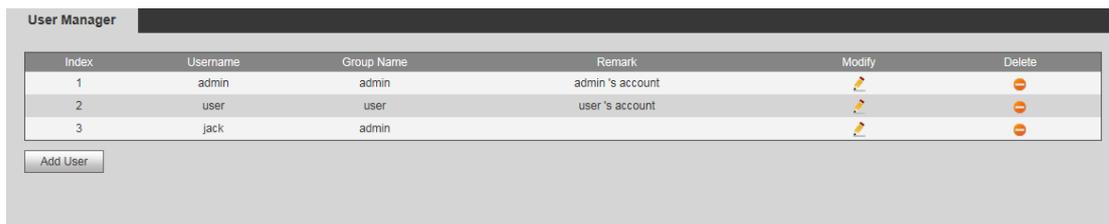

Figure 6-10
Step 4. Click OK, see Figure 6-10.